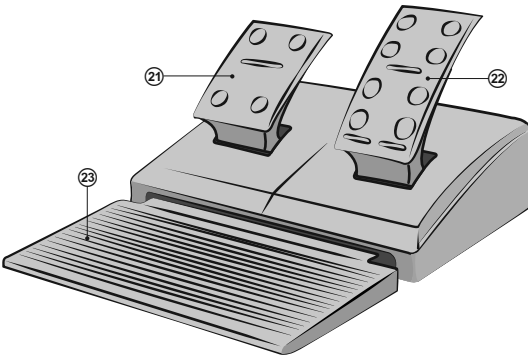

Fig. 5. Foot pedal unit
- Connect the pedal unit to the device (Fig. 5) via the pedal unit cable to RJ-11 jack ⑱, then connect USB cable ⑳ of the device to the available USB port of the computer.